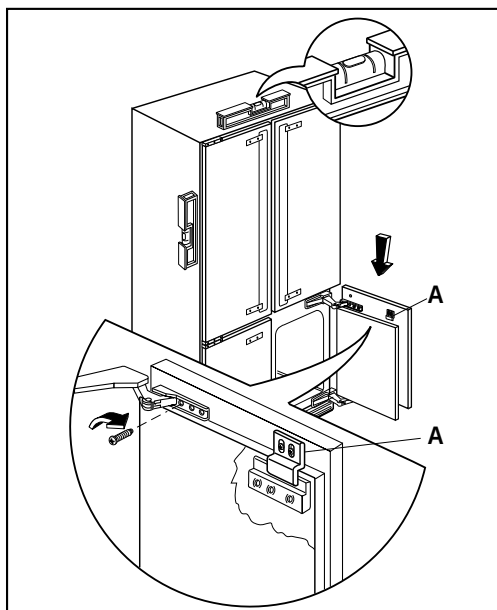

Fig. 6
- Secure the panel with a screw in the vertical slot in the hinge (Fig. 6).